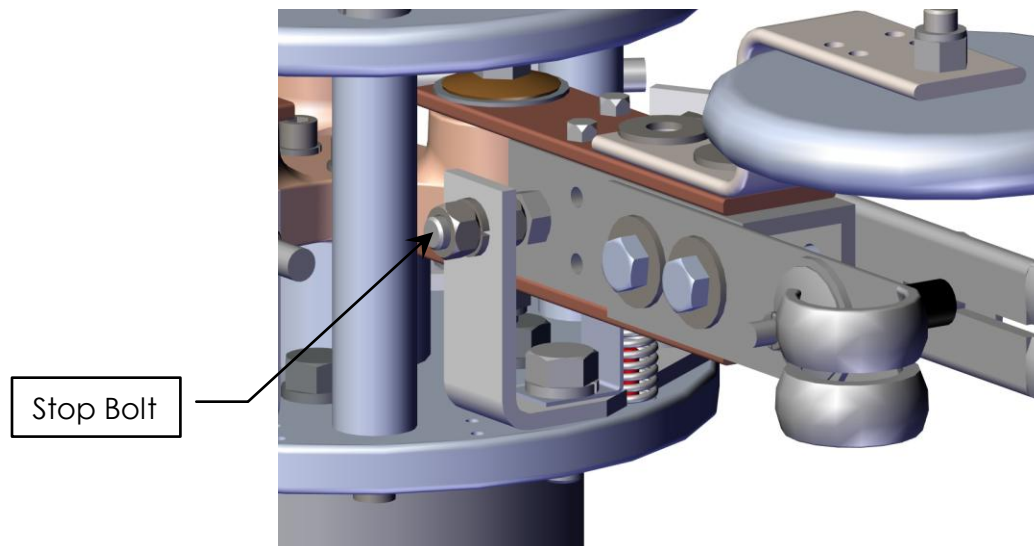

Figure 17: Left-Handed Open Position Live Parts Stop
- 9) The open position stop bolt should lightly touch the female blade at the fully open position. Adjust bolt if necessary. See Figure 17.